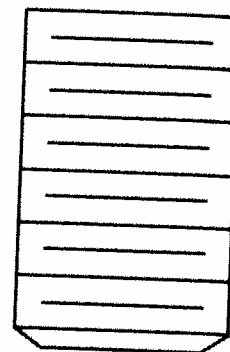

Figure 6-10b
- The block shown in Figure 6-10b will appear on the screen. Recall that the dimensions were not selected as a part of the block.